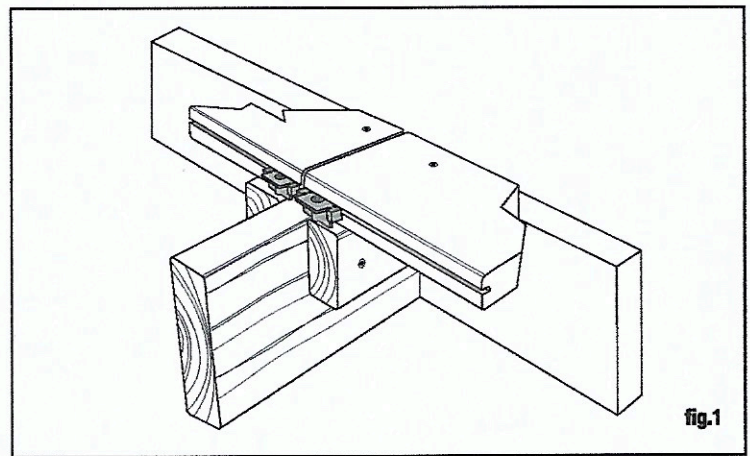

fig.1
- Double joist or use blocking where two board ends meet (fig. 1).